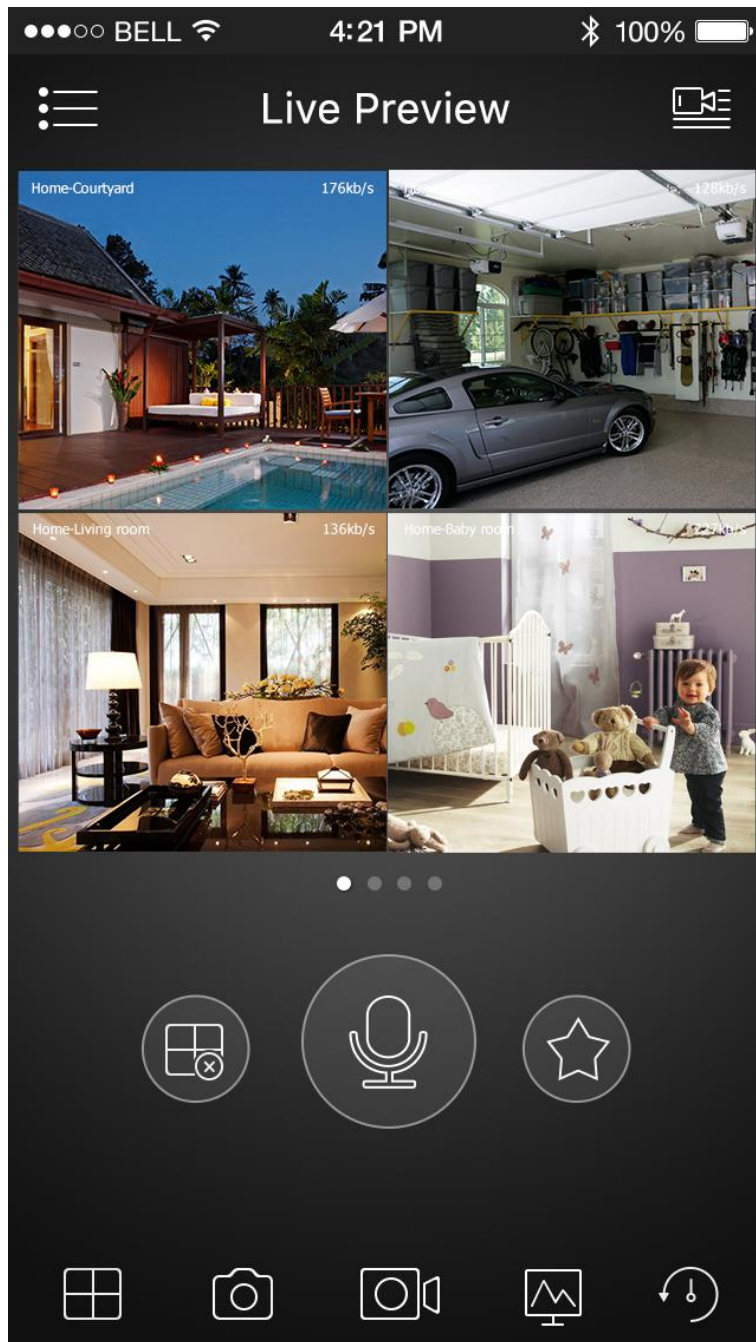

Figure 6-4
a) After scan, you can view the product SN. Click the Start live preview button, now you can see live view on the cell phone. See Figure 6-4.